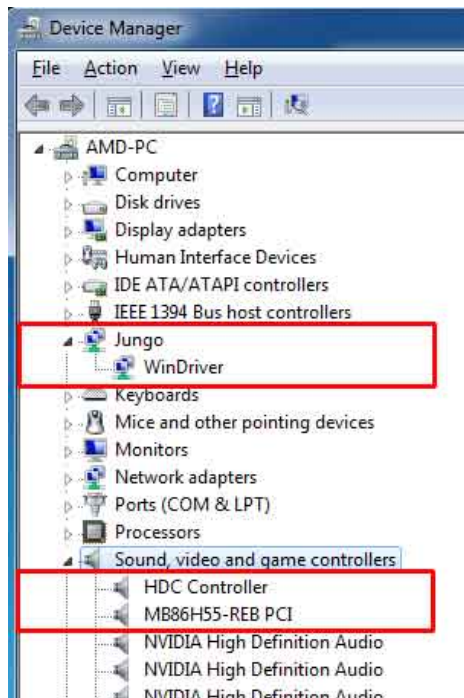

**Figure 1-5: Driver Installation Complete**
**Step 8:** When the driver installation is complete, the screen in **Figure 1-5** appears. Click the **Finish** button to finish driver installation.